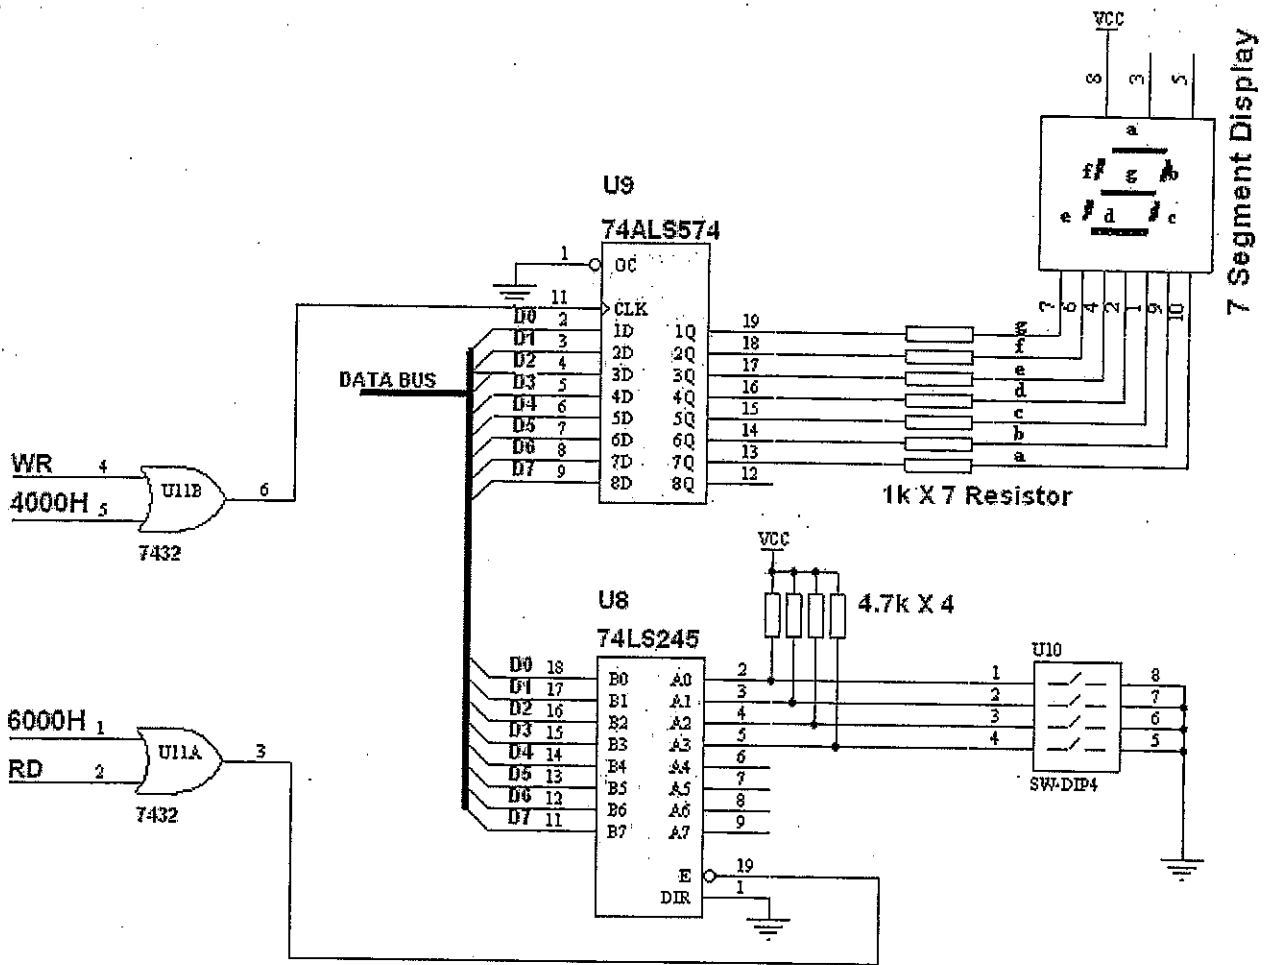

Figure Q20/ Rajah Q20
- Q20. A 4-bit DIP switch, U10, and a common-anode 7-segment display are connected to an 8051 microprocessor system as shown in Figure Q20. Write a program that continually reads a 4-bit code from the DIP switch, U10 and updates the segments to display the appropriate character. For example, if the code 0111B is read, the character "7" should appear. If an external interrupt (INT1) occurs by detecting logic changes from high-to-low at pin INT1, the system should blink character "E" for 5 times.